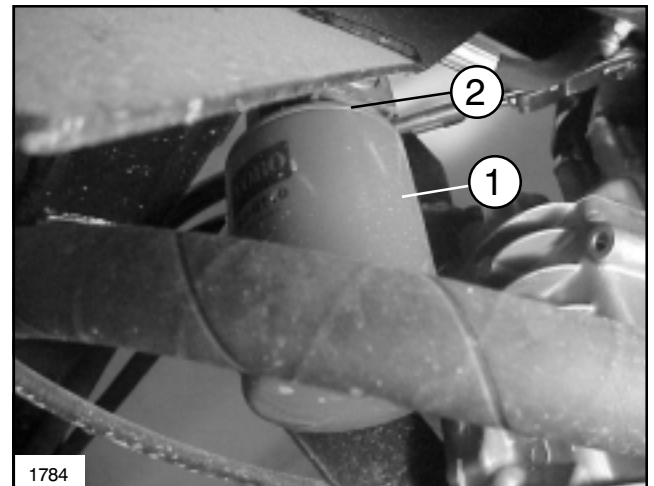

FIG. 25
2. Clean area around filter mounting area. Place drain pan under filter and remove filter. (See FIG. 25)